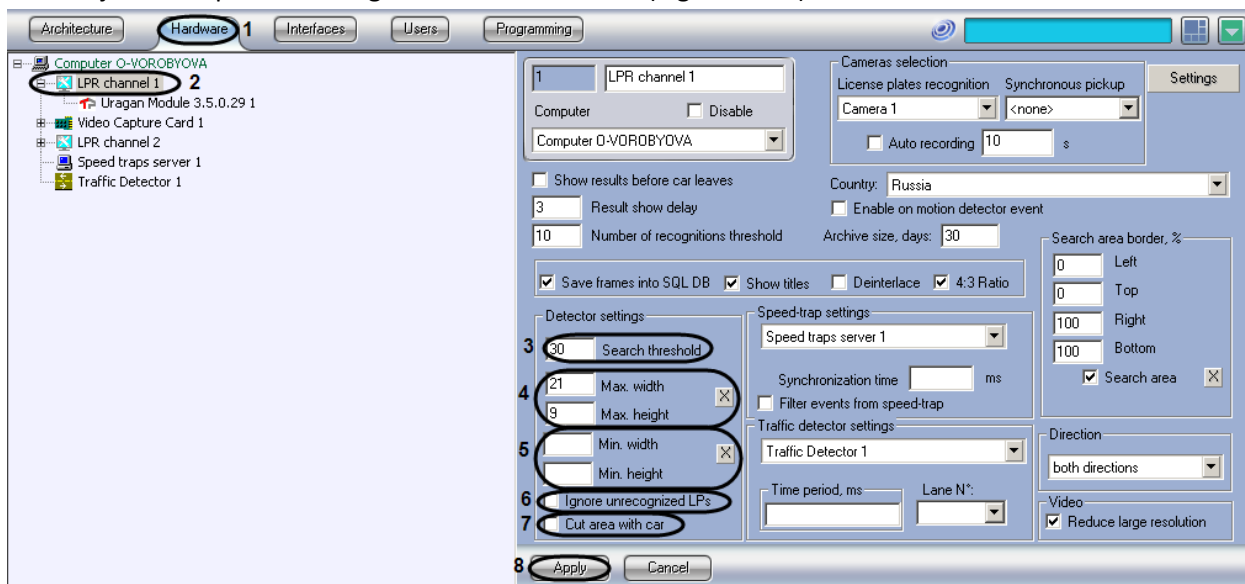

Fig. 7.2—26 Detector setup
2. In the object tree on the left side of the Hardware tab, select the Uragan LPR Recognition object representing the Auto-Uragan 3.5.0.29 software module. The settings panel of the selected object will open on the right side of the window (Fig. 7.2—26).
3. Enter the value in the «Search threshold» field (Fig. 7.2—26, 3).